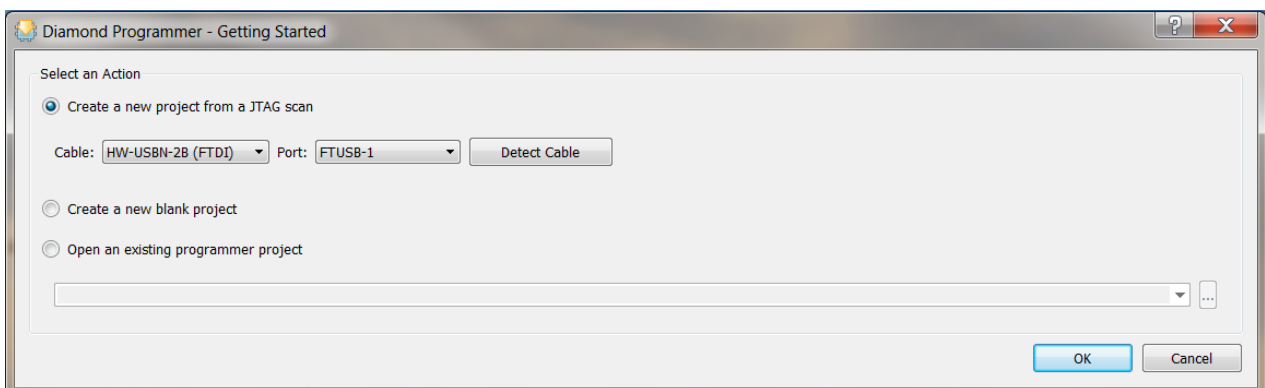

Figure 4.8. Diamond Programmer – Getting Started
2. Open the Lattice Diamond Programmer tool version 3.10 or later. The window shown in Figure 4.8 appears.